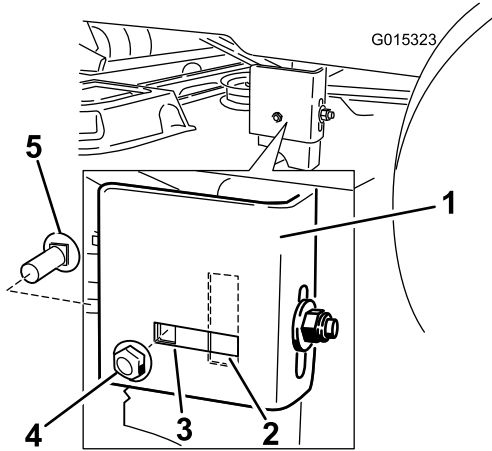

Figure 50
- Move to the left side of the machine. Remove the side carriage bolt and locking nut from the fixed position and install it into the rear, slotted position and leave it slightly loose (Figure 50).